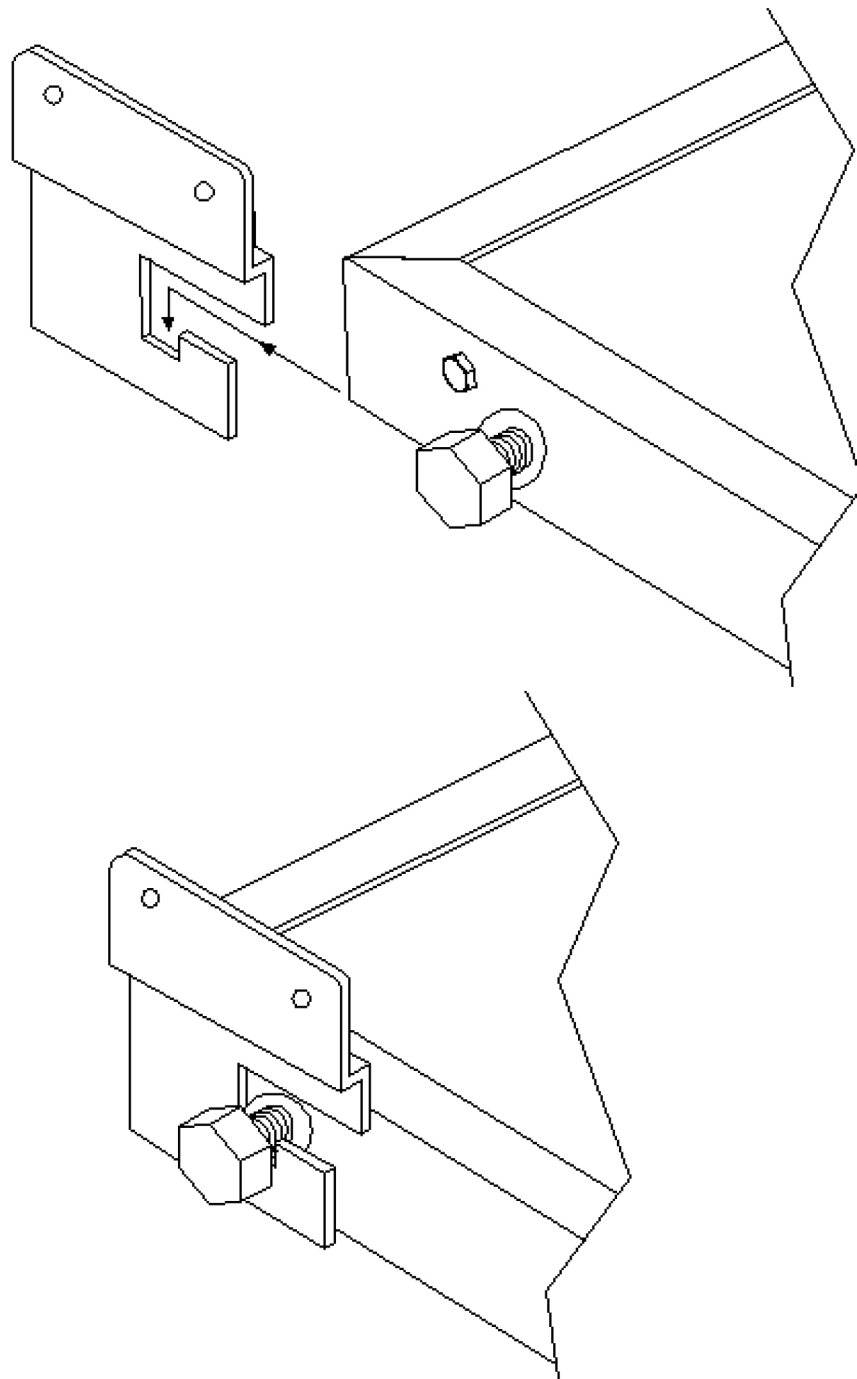

Figure 8.
9. Place the rest bench into positions by situating the bolts into the slot in the front of the restbench brackets and pushing toward the back of the slot until you feel the bolts drop into the bottom of the slot as shown on Figure 8.